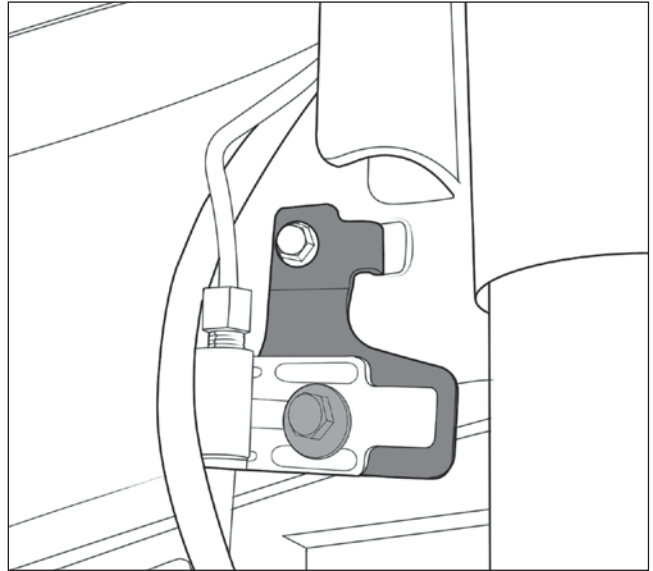

Figure 16
16. For 2007–2010 model year JKs install the front brake line drop brackets tightening to 8 ft lbs. (fig. 16) (2011 or newer refer to step 17).